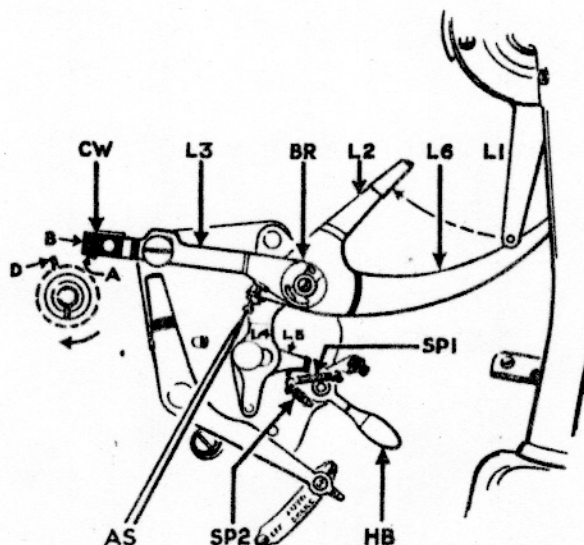

FIG. 7.
The auto brake lever must be set to the "OFF" position and the motor stopped by the handbrake (HB, Fig. 7).
2. With the pick-up on the rest as shown in Fig. 7 adjust screw AS so that there is just a little clearance (about 1/32-inch) between lever L6 and the pin on lever L1.